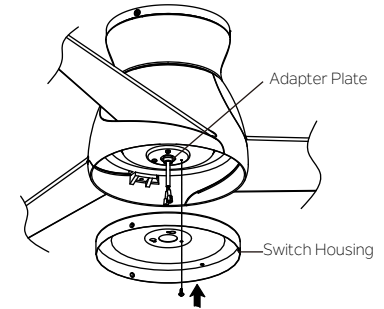

Fig. 16
Step 1. Remove one of three(3) screws preinstalled on adapter plate and keep for later use. Loosen the other two (do not remove). Place the two slot holes on the switch housing over the 2 screws previously loosened from the adapter plate. Rotate the switch housing until it locks in place at the narrow end of the key holes. Secure by tightening the 2 screws previously loosened and the one previously removed. (Fig. 16)